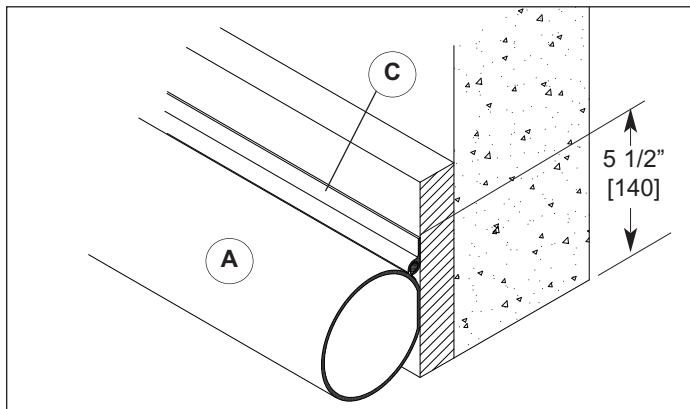
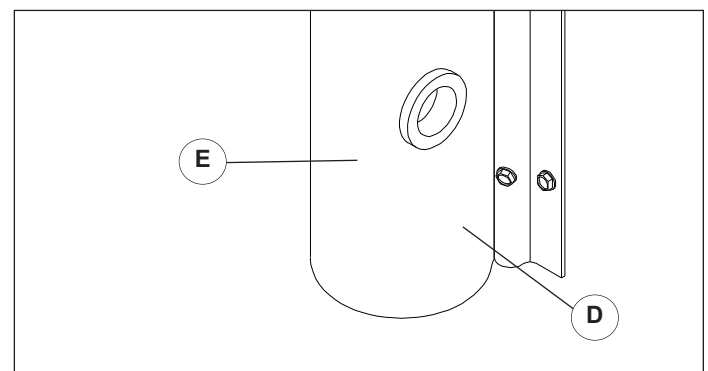

Figure 9.4 - Seal Aluminum Retainer
Figure 9.5 - Seal Exhaust Hole
- Find the center of the opening and place a mark on the floor. From the center of the opening measure and snap a chalk line on the wall the full height of the opening  $1/2$  O.D.W. plus  $5\frac{1}{2}"$  [140] (J).
- From the floor, measure O.D.H. plus  $5\frac{1}{2}"$  [140] (K) to the top of the opening and snap a chalk line the full width of the opening.
- Position Thermal Air® sealing system (A) in front of the opening with the extended section on the drive side. Vertical extension (B) is fastened to the blower on the drive side.
- Fasten the aluminum seal retainer (C) **Figure 9.4** to the wall at the bottom **Figure 9.5**, and then every 18" [457] using the #14 x  $1\frac{1}{4}"$  [32] hex head screws provided if possible. Pull seal tight and place a fastener thru the retainer and the white rope at the top. Repeat for opposite side.
- Air seal must be twist and wrinkle free (F).
- Air exhaust hole must not be obstructed (E) on both sides.
- Mount the blower (G) to the wall such that no part of the blower sticks past the header and the vertical section of the air seal will attach to it. The fabric should be taught but not stretched when clamping (H) to the blower. Use (4) #14 x  $1\frac{1}{4}"$  [32] hex head screws provided.
- From the floor, measure O.D.H. plus  $5 \frac{1}{2}$ " [140] (K) to the top of the opening and snap a chalk line the full width of the opening.
- Fasten the aluminum seal retainer (C) **Figure 9.4** to the wall at the bottom **Figure 9.5**, and then every 18" [457] using the #14 x  $1 \frac{1}{4}$ " [32] hex head screws provided if possible. Pull seal tight and place a fastener thru the retainer and the white rope at the top. Repeat for opposite side.
- Mount the blower (G) to the wall such that no part of the blower sticks past the header and the vertical section of the air seal will attach to it. The fabric should be taught but not stretched when clamping (H) to the blower. Use (4) #14 x  $1 \frac{1}{4}$ " [32] hex head screws provided.